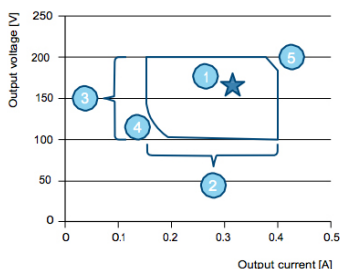

Figure 16. Driver operating window.
One of the key features of the Xitanium LED drivers is the adjustable output current (AOC), offering flexibility, differentiation for the OEM and future-proof luminaire design. The Xitanium drivers can operate in a so-called “operating window.” See Figure 16. This power window is defined by the maximum and minimum voltage (V), current (A) and power (W) that the driver can handle. The area indicates the possible current/voltage combinations. The current you select will depend on the type and manufacturer of the LEDs, the specific LED configuration of the PCB design and the desired output (lm) per LED.